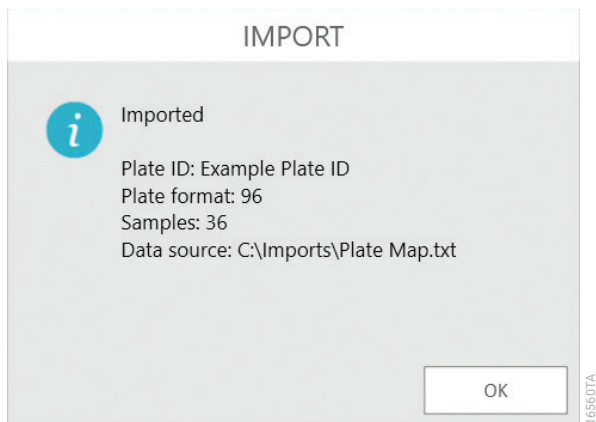

Figure 35. 'Import' screen. The 'Import' screen displays a summary of information from the import of a plate map file.
7. Once all data fields are identified, tap the **Accept** button to perform the import of data from the file. An 'Import' screen is shown summarizing the results of the plate import including the Plate ID, plate format, number of samples present in the file, and the data source for the import file (Figure 35). Tap **OK** to dismiss the 'Import' screen.